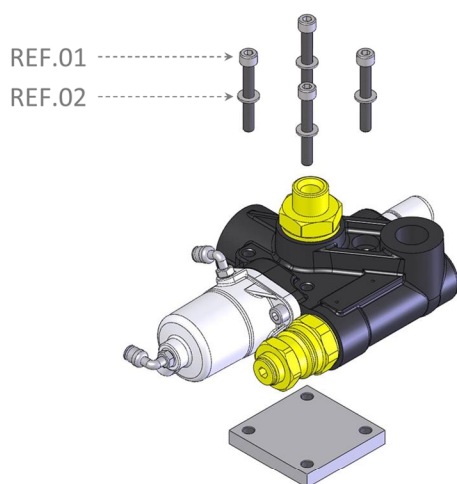
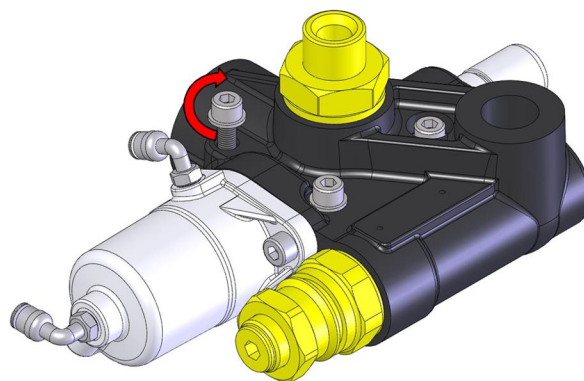
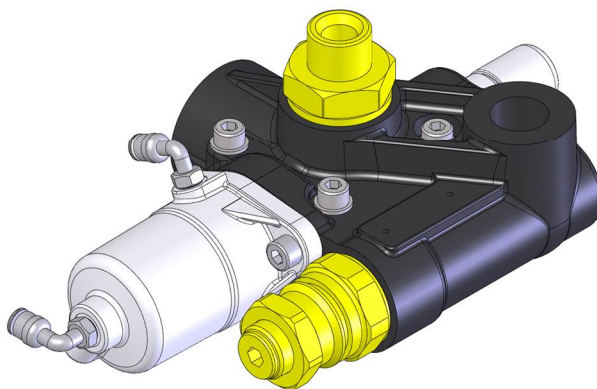

Fig.9
Fig.10
Fig.11
3.1. Take n.4 screws M8x65 (see ref.01 on Fig.9) and, interposing n.4 washers Ø8 (see ref.02 on Fig.9), screw them into its 4 holes (see Fig.10).
WARNING : take care to screw the n.4 screws M8x65 (see ref.01 on Fig.9) with a tightening torque of 30 Nm in order to avoid any oil leakage (see Fig.11). After completely tightening the screws, check with your hands (pushing and pulling) if the piston rod is free to move.